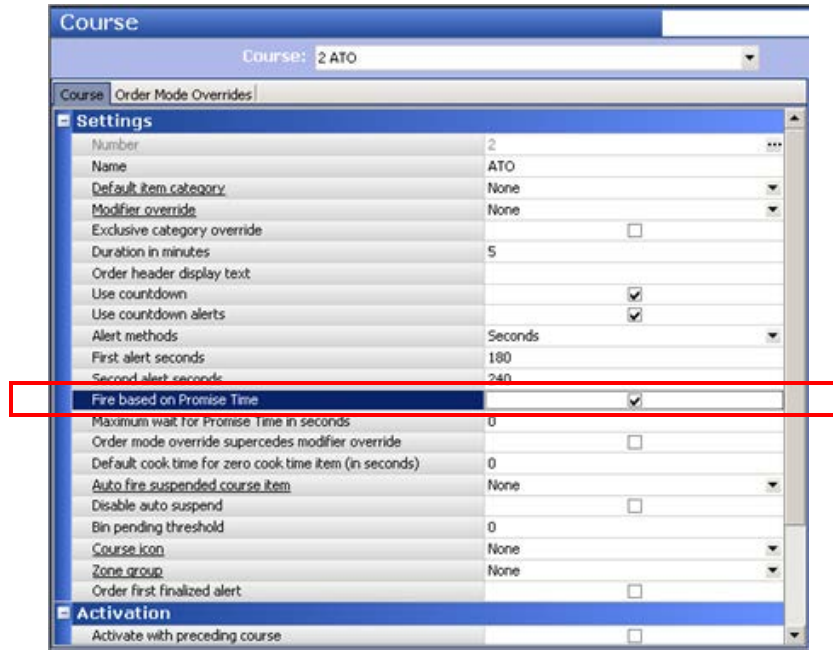

Figure 3 Course - Course Tab
1. With Kitchen selected in the product panel, select **Maintenance > Kitchen Configuration > Course** (Figure 3).
1. With the Course function still open (Figure 3), type the **factor** to multiply against the longest item cook time in 'Longest item cook time multiplier.' The default is 1.000, meaning the value does not effect the longest cook time.